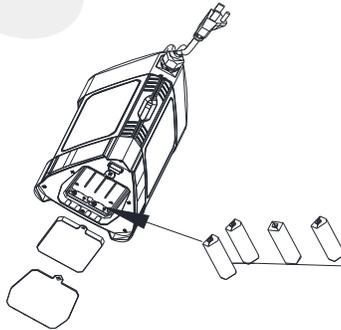

figure 2
**Step 2:** Remove the silicone sleeve, see Figure 2.